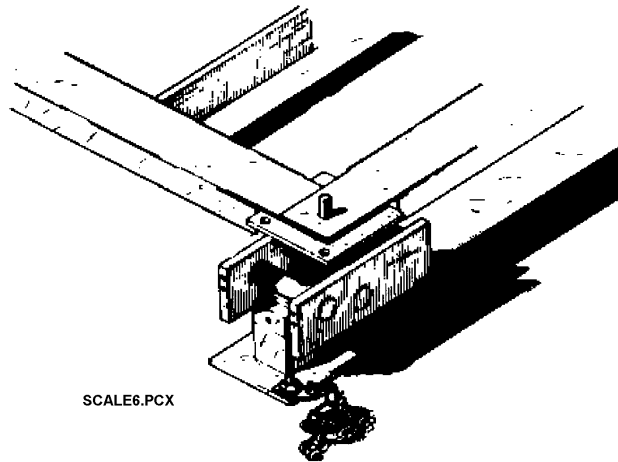

Figure 55. Scale Framing Installation
10. Install Upper Main Stands on the Load Pivots of the Main Levers. Place the Four Channel pieces over the Upper Main Stands as shown in **Figure 55**. Do Not Stand On The Channel!